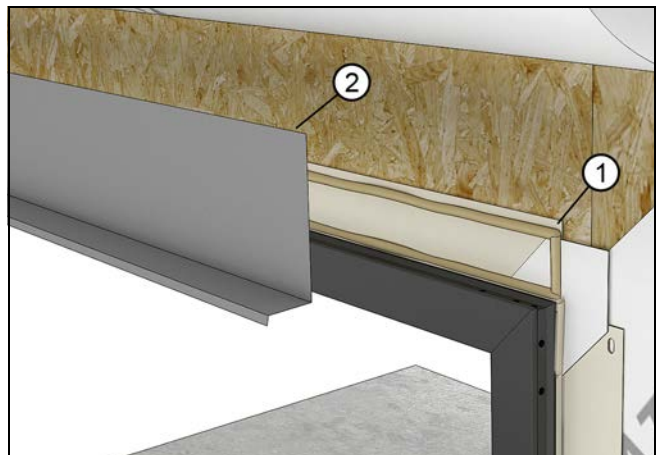

Figure 48
4. Install a rigid head flash. Seal both horizontal and vertical legs of the rigid head flash. See Figure 48.